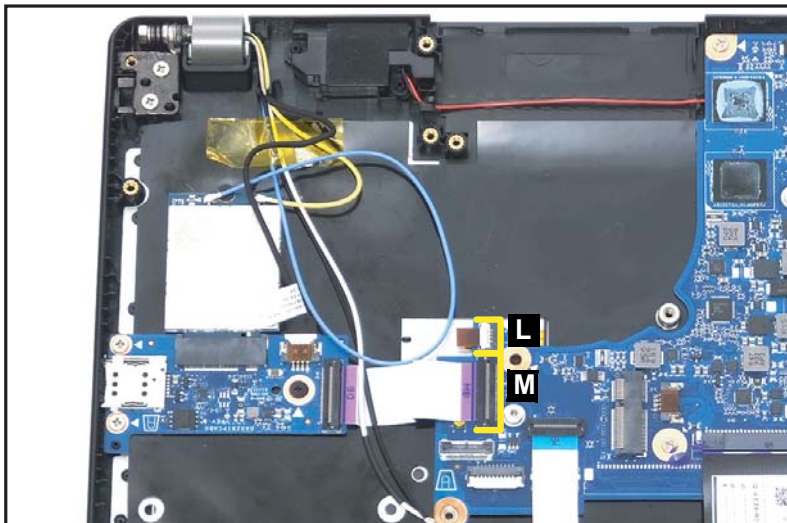

Figure 1-46. Mainboard Removal (LTE SKU)
14. Disconnect the backlight FFC from the mainboard connector (L) (Figure 1-46).
15. Disconnect the LTE FFC from the mainboard connector (M) (Figure 1-46).